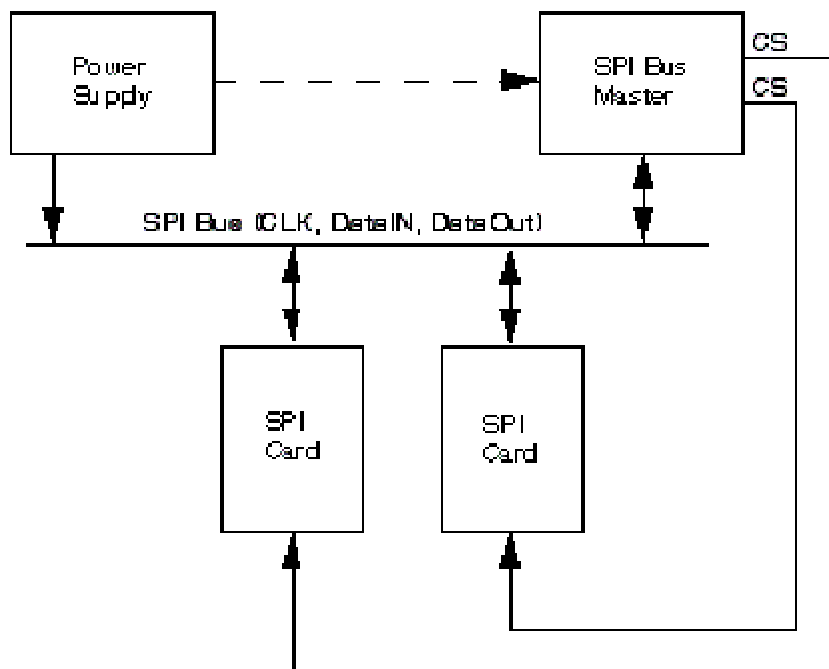

Figure 3-4. SD Card Bus System
The SD Card identification and addressing algorithms are replaced by a hardware Chip Select (CS) signal. A card (slave) is selected, for every command, by asserting (active low) the CS signal (see Figure 3-4). The CS signal must be continuously active for the duration of the SPI transaction (command, response and data). The only exception is card programming time. At this time the host can de-assert the CS signal without affecting the programming process.